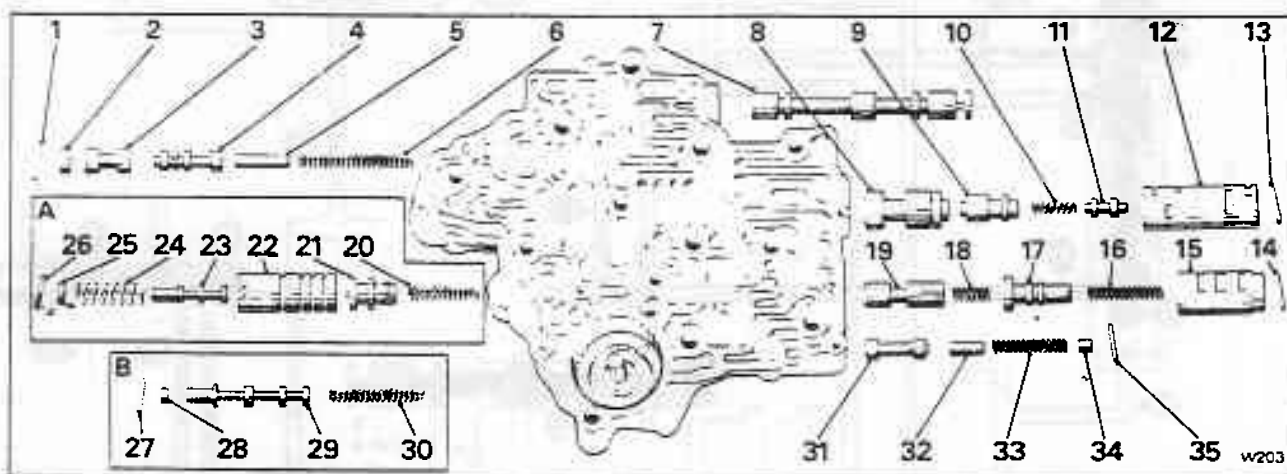

Fig. T12-13 Control valve unit
1. Hold the control valve unit with the cored passages uppermost and the accumulator piston bore to the front, as shown in figure T12-13.
Refer to figure T12-13 during assembly procedure